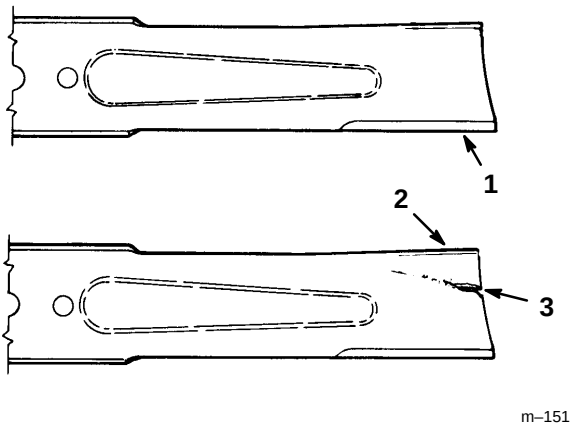

Figure 15
1. Inspect the cutting edges (Fig 15). If the edges are not sharp or have nicks, remove and sharpen the blades. Refer to Sharpening the Blades on page 35.
2. Inspect the blades, especially the curved area (Fig. 15). If you notice any damage, wear, or a slot forming in this area (item 3 in Fig. 15), immediately install a new blade.